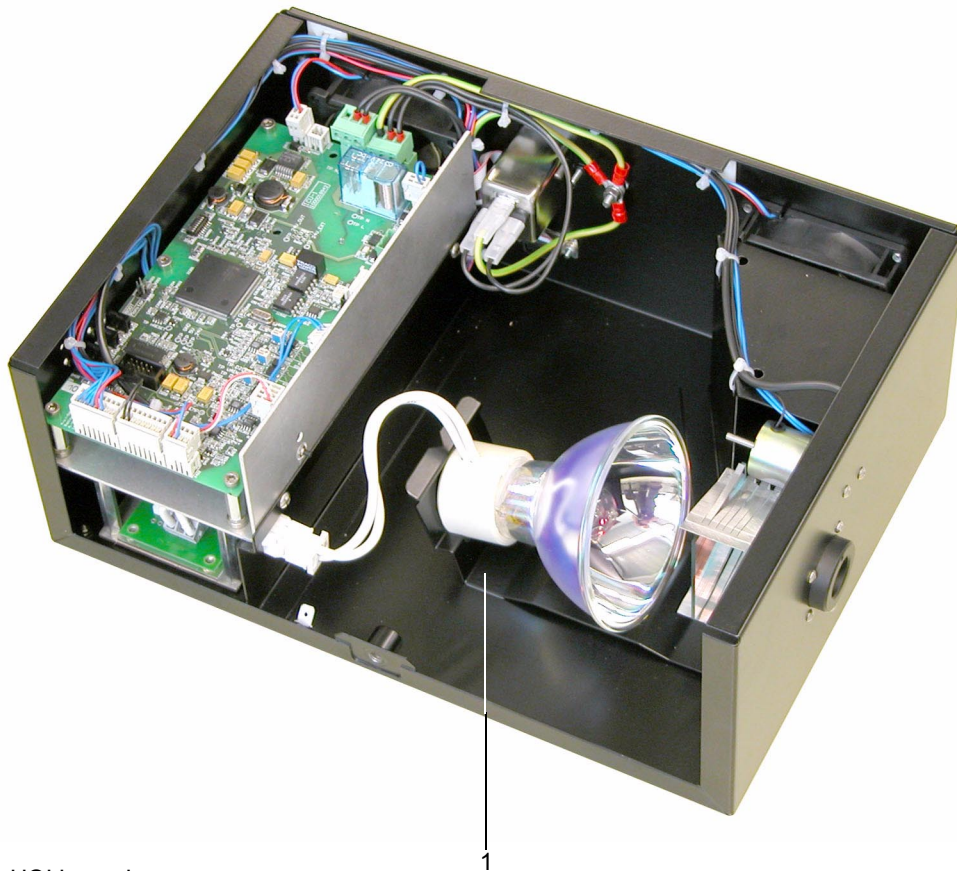
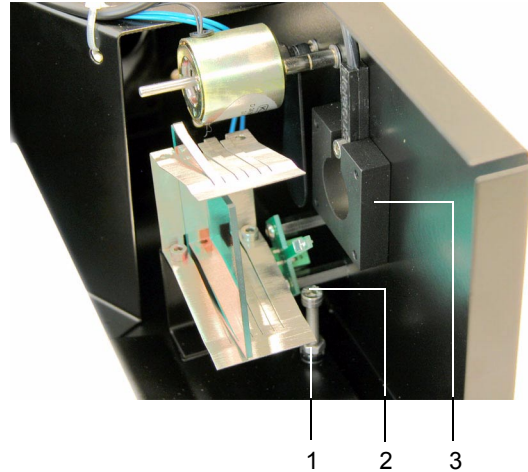

Fig. 14: HQI Lamp Lever
Fig. 15: HQI Lamp Adjustment Screw
Fig. 14: The HQI lamp is mounted on a spring lever (1), which allows adjusting the bulb's height to maximize the intensity of the light. You adjust the lamp with the adjustment screw under the fiber connector (**Fig. 15 (3)**). To adjust the height, proceed as follows.
1. **Fig. 15:** Loosen the lock nut (1).
2. Adjust the height of the HQI bulb by turning the adjustment screw (2) in such a way, that the top surface of the spring lever (**Fig. 14 (1)**) is 7.5 mm above the base plate of the HQI illumination module.